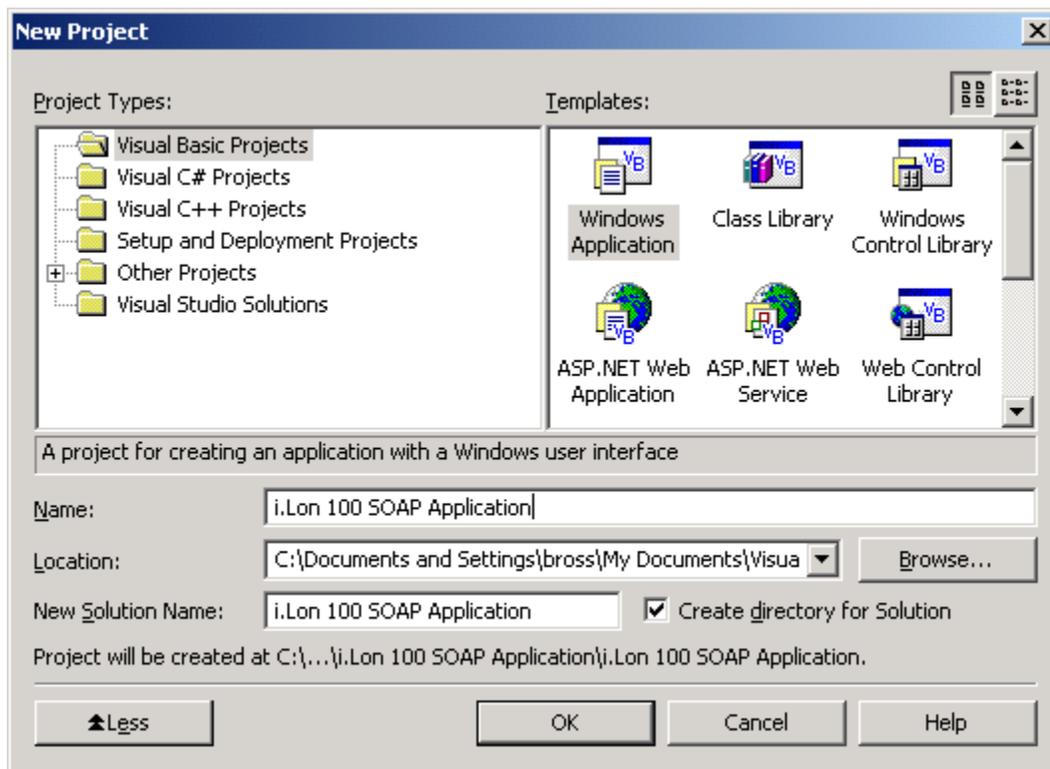

Figure 15.1 Create Windows Application
2. From the **File** menu, select **New**. This opens the dialog box shown in Figure 15.1.